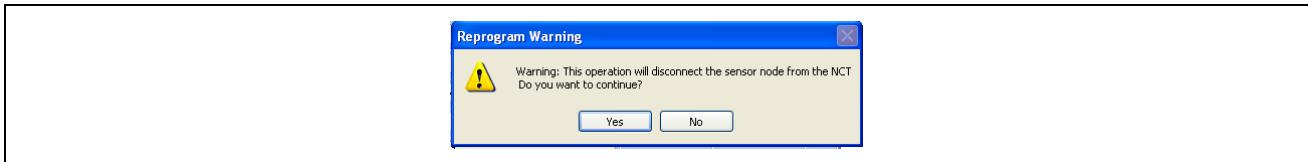

Figure 4 Reprogram Warning Dialog
- 6 In the Tools menu, select the “Update Sensor Node Operating System...” menu item. When the Reprogram Warning seen in Figure 4 appears, select ‘Yes’ to continue or ‘No’ to quit.